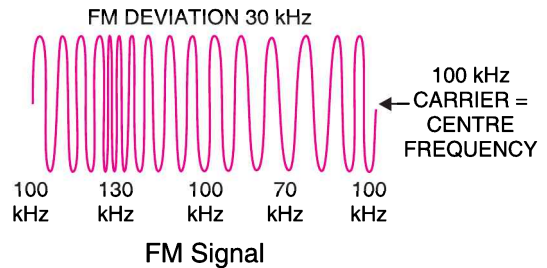

Fig. 16.13
Illustration. The process of frequency modulation (FM) can be made more illustrative if we consider numerical values. Fig. 16.13 shows the FM signal having carrier frequency $f_c = 100 \text{ kHz}$. Note that FM signal has constant amplitude but varying frequencies above and below the carrier frequency of 100 kHz ($= f_c$). For this reason, f_c ($= 100 \text{ kHz}$) is called *centre frequency*. The changes in the carrier frequency are produced by the audio-modulating signal. The amount of change in frequency from f_c ($= 100 \text{ kHz}$) or *frequency deviation* depends upon the amplitude of the audio-modulating signal. The frequency deviation increases with the increase in the modulating signal and vice-versa. Thus the peak audio voltage will produce maximum frequency deviation. Referring to Fig. 16.13, the centre frequency is 100 kHz and the maximum frequency deviation is 30 kHz . The following points about frequency modulation (FM) may be noted carefully :